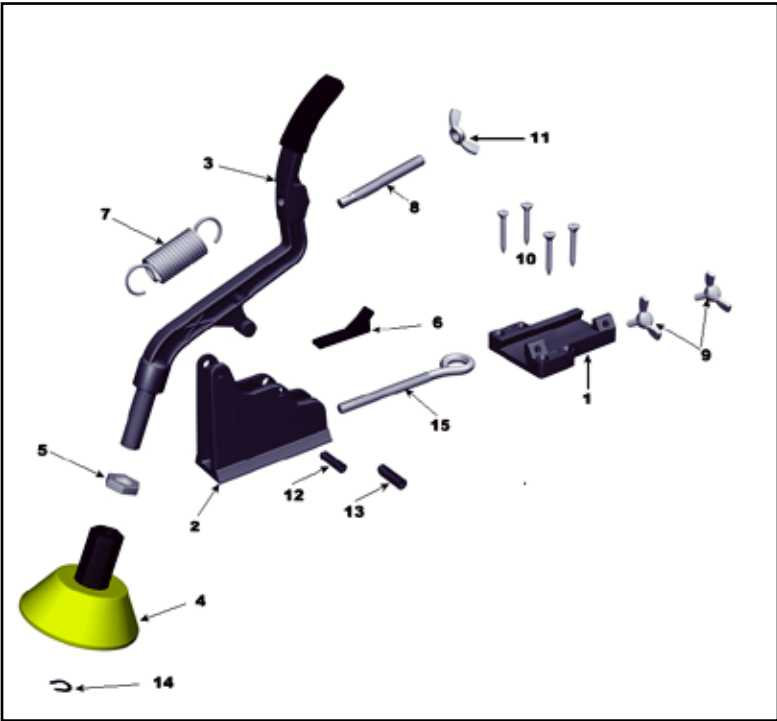
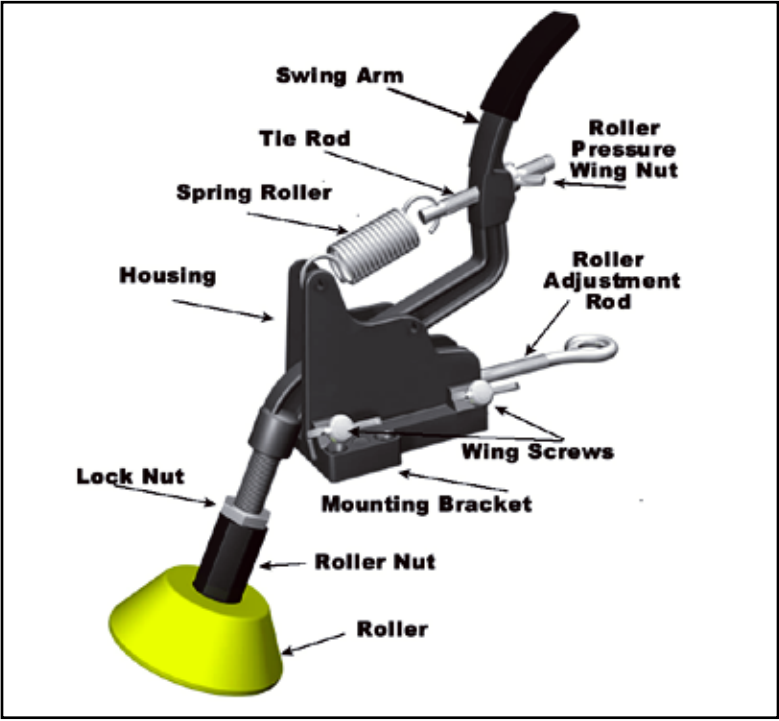

Figure 2
Figure 3
**Board Mates** use non-marring neoprene rubber wheels that turn clockwise only, these wheels work as anti kickback and hold down devices. The Board Mates body is made of die-cast aluminum with a spring loaded swing arm that applies pressure down on a work piece as it rolls under the anti-kickback wheels. The Board Mates system has adjustments for spring tension as well as forward and backwards body adjustment after mounting. Board Mates come in pairs which can be mounted on fences 1-1/2" to 3" high x 1" or wider. Each Board Mate consists of mounting bracket, swing arm body with spring, and an adjustable roller. *See Figures 2 and 3.*
Your BOARD MATES are partially assembled from the factory; however, some minor assembly and adjustment is required using Figure 2 and Figure 3 for reference.
**To assemble your BOARD MATES , see Figures 2 and 3 for item numbers and do these steps:**
1. Thread the lock nut (5) onto each swing arm (3).
2. Thread the roller (4) onto each swing arm no less than 1/2", and tighten the lock nut (5) against the roller nut (4).
3. Slide the housing (2) into the mounting bracket (1) and tighten the wing screws (11).
1. Move the Housing (2) (Figure 2) in or out and align the rollers on the stock between the line of cut and the fence, and tighten the position (9) (Figure 2) wing screws.
2. Adjust the roller nut, the lock nut, and the Adjust Rod (15) (Figure 2) so the roller height is approximately 1/8" less than the stock thickness.
3. Turn the roller pressure Adjust Rod (15) (Figure 2) so the roller applies a firm pressure on the stock, but does not tilt the Board Mates off of the fence or T-Track.
- ALWAYS make sure the jam nut (5) (Figure 2) and the position locking thumbscrews (9w) (Figure 2) are tight, and the Board Mates are correctly adjusted.
3. Depress the swing arm (3) (Figure 2) and remove the shoe (6) (Figure 2). Clean out any foreign material that is preventing the shoe from sliding inside the housing (2) (Figure 2).